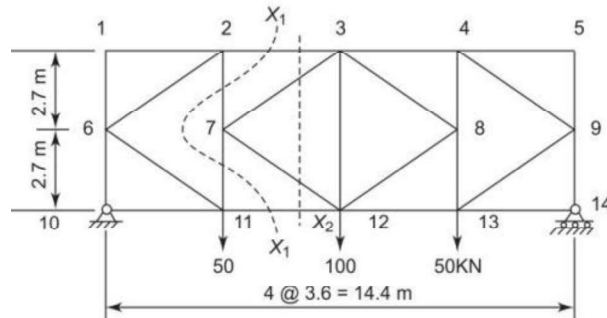

Fig. 7.
- b) Using method of sections, find the forces in members 2-3, 7-11, 7-12 of the truss shown in Fig. 7. [7M]